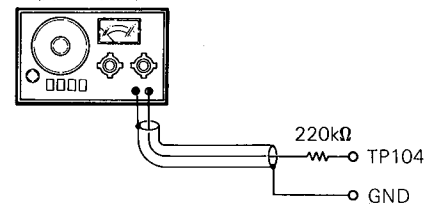
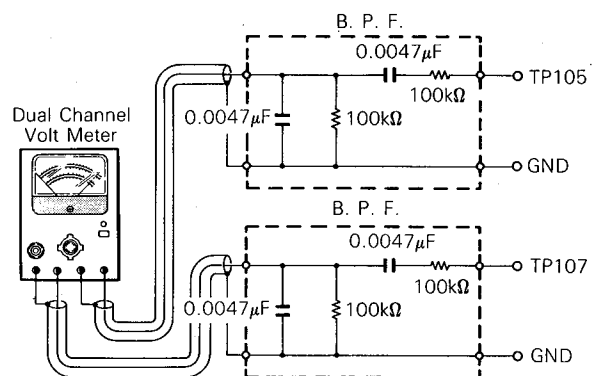

Fig. 19
Fig. 20
- (1) Connect an audio frequency oscillator with 220k ohm resistor in series to TP104 and GND. (Fig. 19)
- (2) Set the audio frequency oscillator output to 800Hz, 1.0V RMS.
- (3) Connect AC volt meter to B.P.F. (Fig. 20)
- (4) Connect B.P.F. to test point TP105 and GND and then to TP107 and GND. Measure the output level at each point. (Fig. 20)
- (5) Insert the Philips test disc #5 and place the unit in the play mode on track number 8.
- (6) Adjust VR104 so that the voltage differential between TP107 and TP105 becomes 29dB $\pm$ 3dB. (FOC - FOG = 29dB)